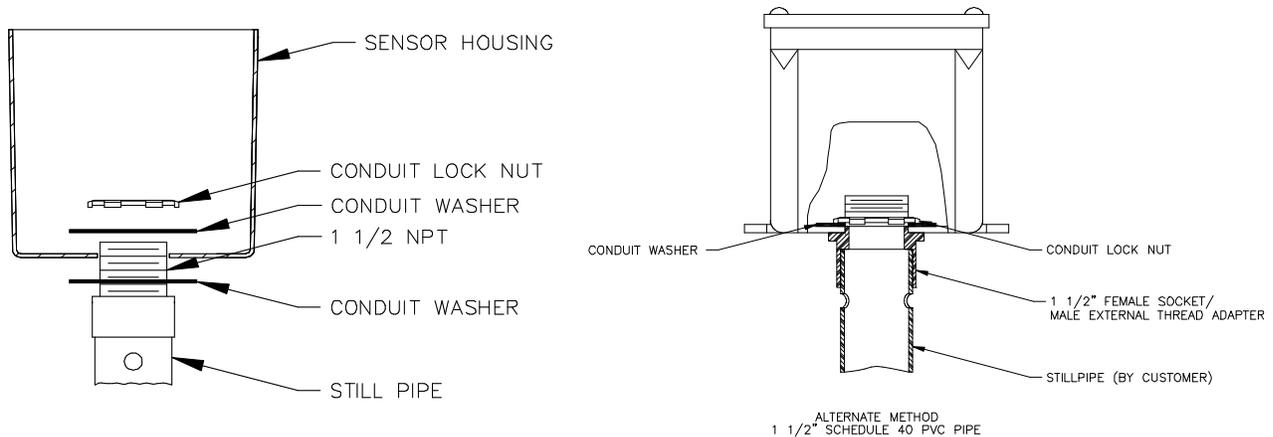

Figure 4 Attachment of housing to still pipe
- * Mount housing to threaded pipe end, as shown in Figure 4. If female socket/male external thread adapter is used at end of still pipe, then only conduit washer and lock nut inside of housing need to be used.